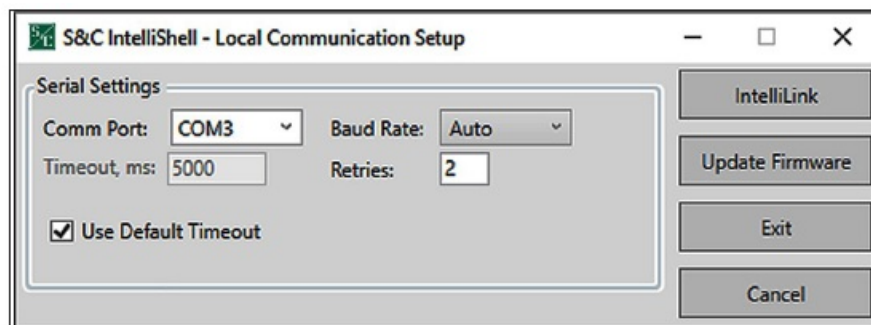

Figure 6. The Communications Parameters entries within the S&C Electric IntelliShell—Local Communication Setup dialog box.
- Click on the IntelliLink button. See the “Firmware Update” section on page 17 when a firmware update is required. See Figure 6.